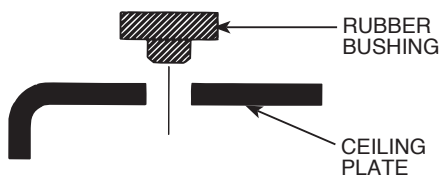

FIGURE 4. Rubber Bushings
A. Install the (3) rubber bushings into the top of the ceiling plate by inserting small side of the rubber bushing into the three holes in the ceiling plate. See Figure 4.